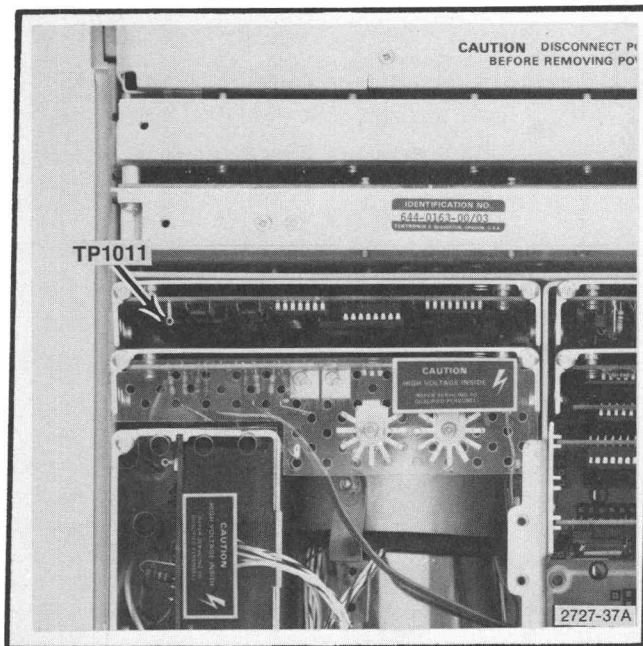

Fig. 3-26. Location of TP1011 on Crt Readout.
j. Change the test oscilloscope to Ext Trigger. Apply the Readout Off signal at TP1011 (Fig. 3-26), in the upper left corner of the CRT readout board, to the test oscilloscope Ext Trigger input. Adjust the controls for a triggered sweep. Turn the 492 sweep off by activating SINGLE SWEEP, deactivate Digital Storage and ensure READOUT is on.